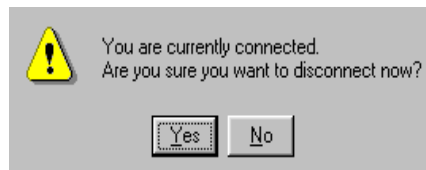

Figure 3-25 HyperTerminal Dialog Box
- l. Select *Exit* from the *File* pull-down menu to close the HyperTerminal application. A *HyperTerminal* dialog box displays (Figure 3-25).